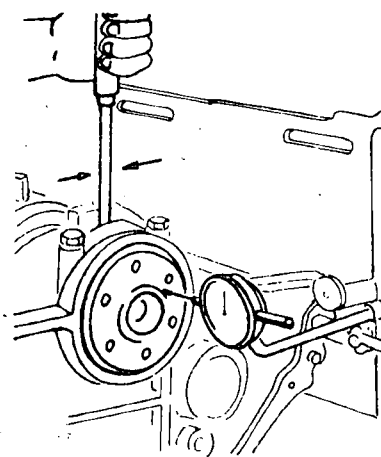

Fig. 7
a) Install a dial indicator in the block and the tip of the instrument; support it on the flange of the shaft (fig. 7).